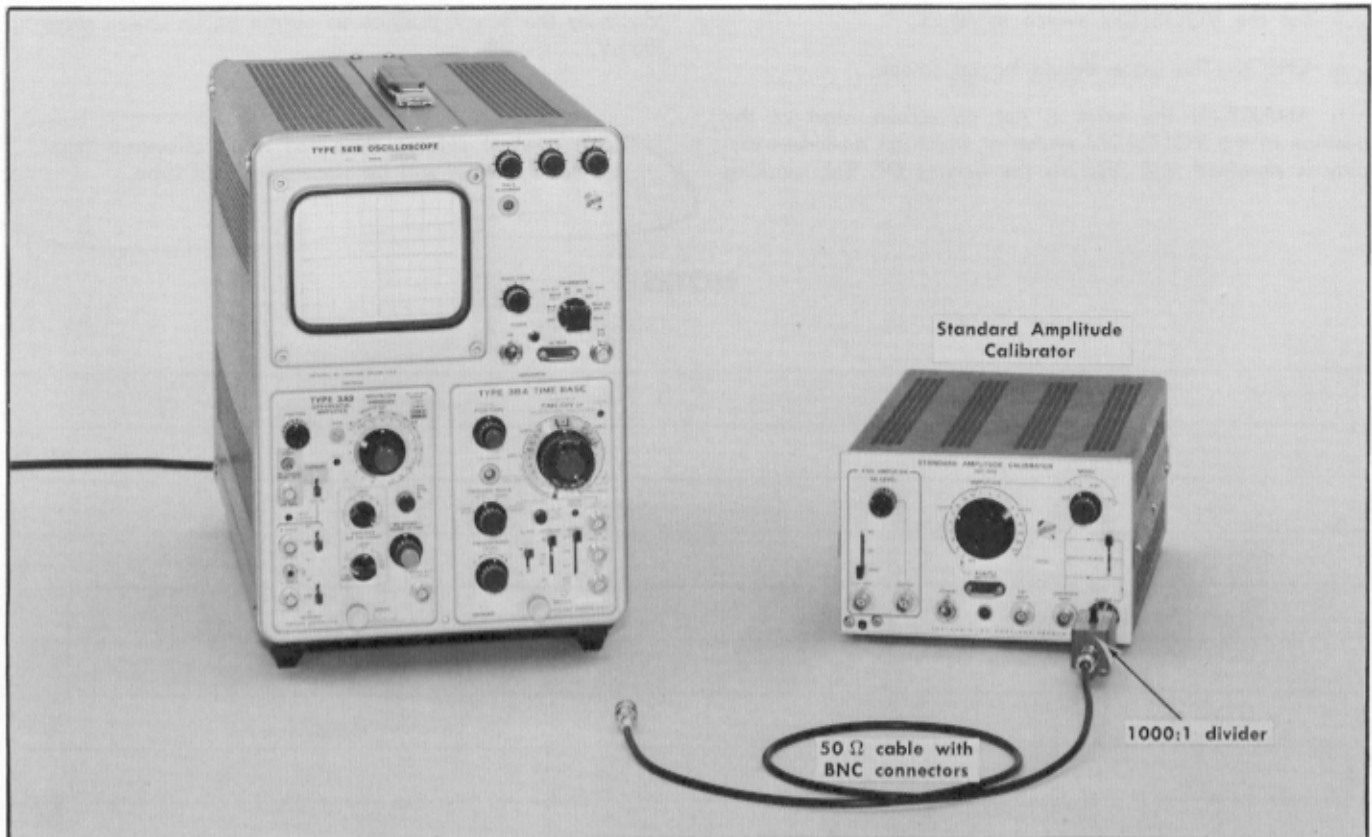

Fig. 5-3. Equipment required for steps 4 through 6.
- a. Test equipment is shown in Fig. 5-3.